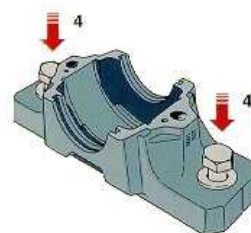

Figure 7 Mounting bolts
- PLACE THE HOUSING ON LOAD BEARING SURFACE AND INSERT THE MOUNTING BOLTS WITHOUT TIGHTEN, Figure 7;